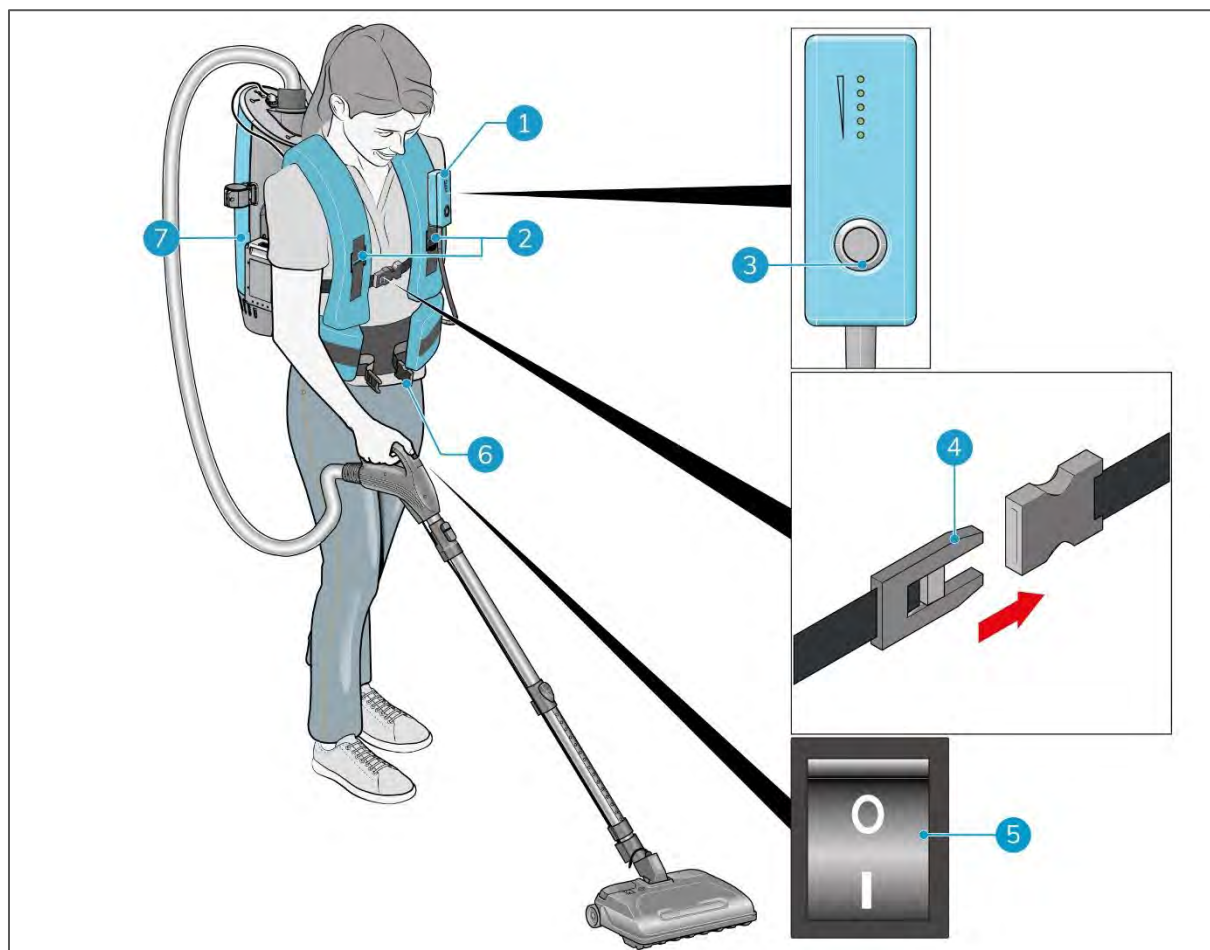

Figure 19
11. Place the i-move 2.5B® on your back (Figure 19, pos 7).
12. Close the waistband, adjust it until it fits comfortably (Figure 19, pos 6).
13. Tighten the 2 buckles until they fit comfortably (Figure 19, pos 2).
14. Fasten the buckle at the front (Figure 19, pos 4).
15. Clip the remote control on the waistband or on one of the buckle loops (Figure 19, pos 1).
16. Press the ON/OFF switch (Figure 19, pos 3) to turn on the i-move 2.5B.
17. Press the ON/OFF switch (Figure 19, pos 5) to turn on the i-brush®, the i-brush works best if no pressure is applied to the brush.
1. Press the ON/OFF switch (Figure 19, pos 5) to turn off the i-brush.
2. Press the ON/OFF switch (Figure 19, pos 3) to turn off i-move 2.5B®.
3. Undo the buckle (Figure 19, pos 4) at the front.
4. Undo the two buckles (Figure 19, pos 2).
5. Open the waistband (Figure 19, pos 6).
6. Remove the remote control from the waistband or on one of the buckle loops (Figure 19, pos 1).